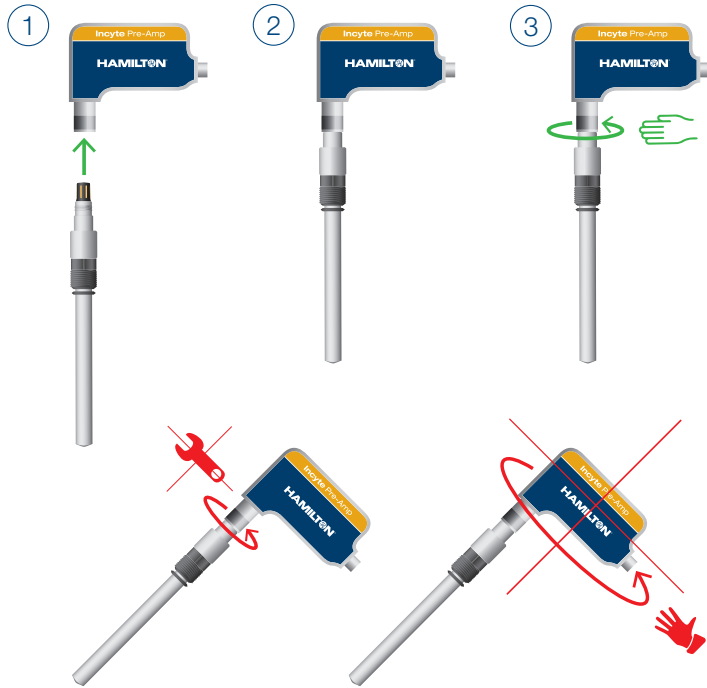

Figure 2: Connection of a Sensor Unit.
6. Hand-tighten the connecting nut of the Pre-amplifier's VP Connector to ensure a robust and waterproof seal (Figure 2).
⚠ ATTENTION! Do not use the Pre-amplifier as a lever to screw or unscrew the sensor. This may cause mechanical damage in the preamplifier. Always use the PG13.5 thread instead (Figure 2).